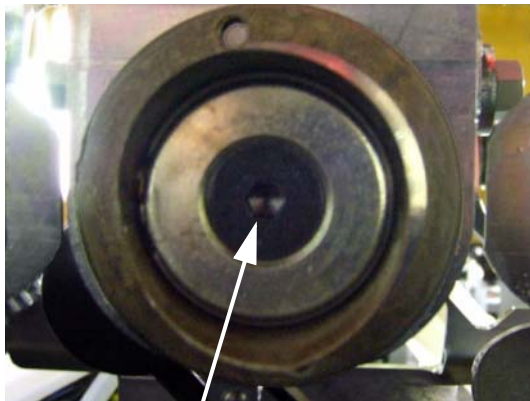

Figure 36: The blade is attached with a Allen screw in the middle.
2. Open little the Allen screw in the middle of the puncher blade (figure 36)